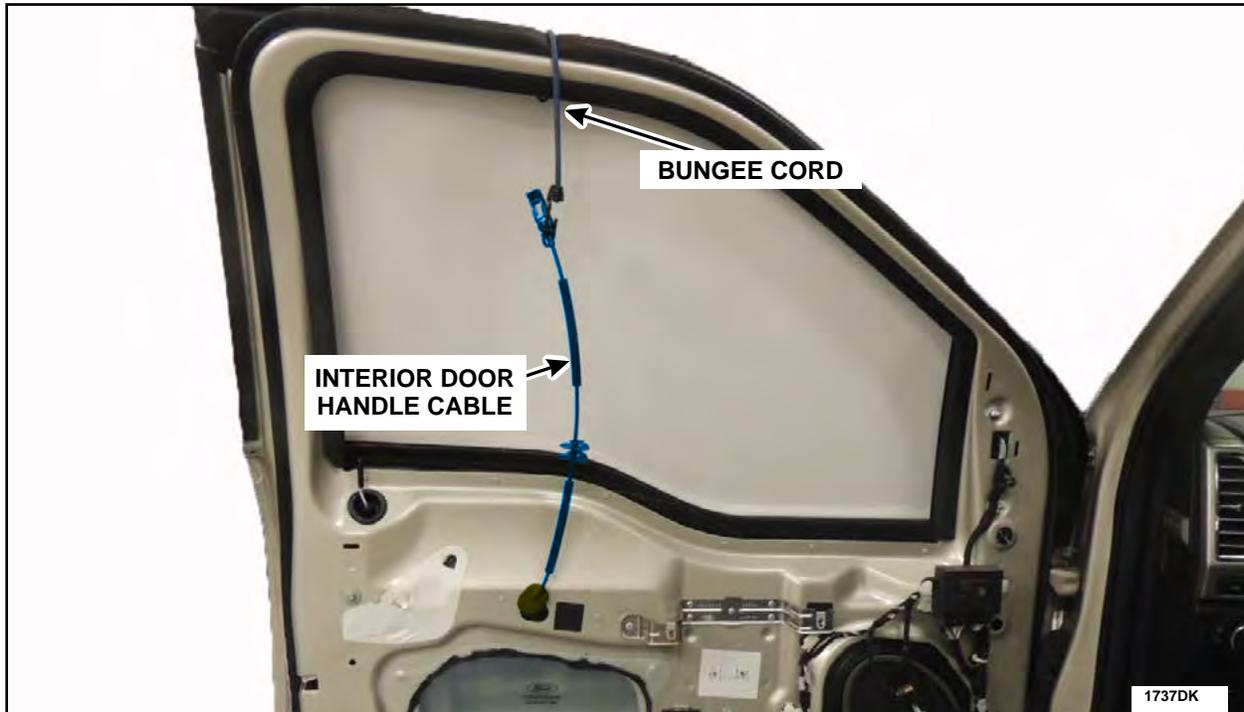

FIGURE 41
- Using a bungee cord or other similar device, secure the interior door handle cable to the door in an upward position to allow the Motorcraft® XL-6 Lubricant time to run down into the cable, until the interior door handle cable is reinstalled later in this procedure. See Figure 41.